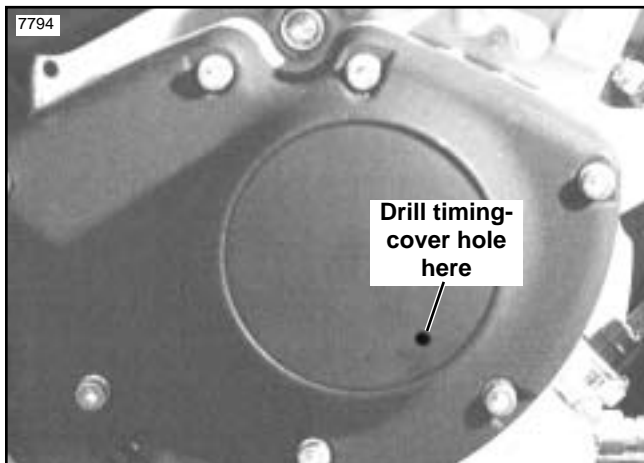

Figure 5. Drilling and Removing the Timing Cover
- See Figure 5. Drill a hole in the outer timing cover at the 5 o'clock position and approximately 1/2 inch (13 mm) from the outside edge of the cover. Use a 90-degree pick or similar tool to pull the outer timing cover from the gearcase.